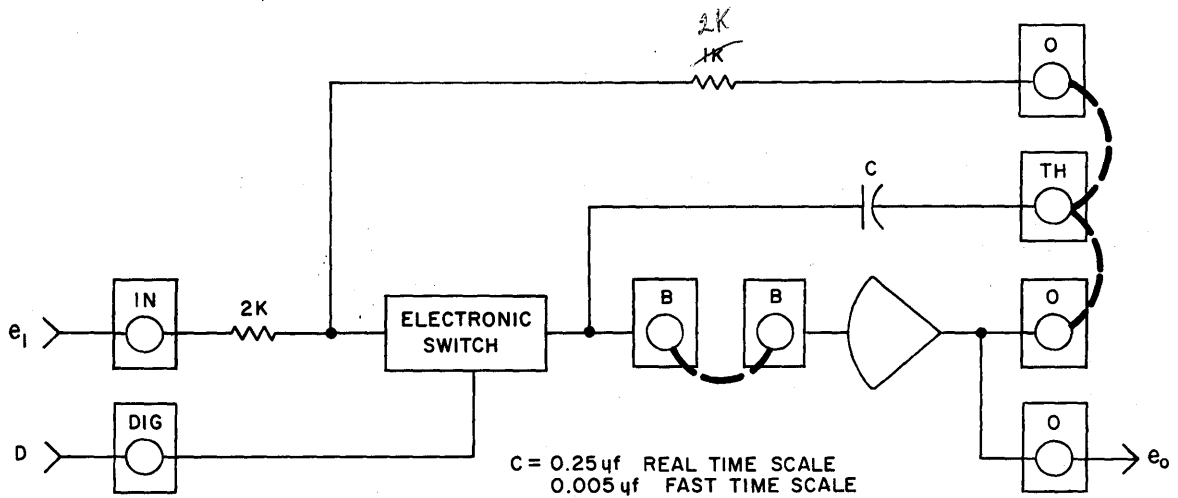

Figure 7. Track-Hold Network, Block Diagram
(3) *Track and Hold.* A typical track and hold network is shown in block diagram form in Figure 7. When D is a binary ONE, the network is in track. When D is a binary ZERO, the network is in hold. The binary inputs may be applied from the output of a comparator or from external digital equipment.